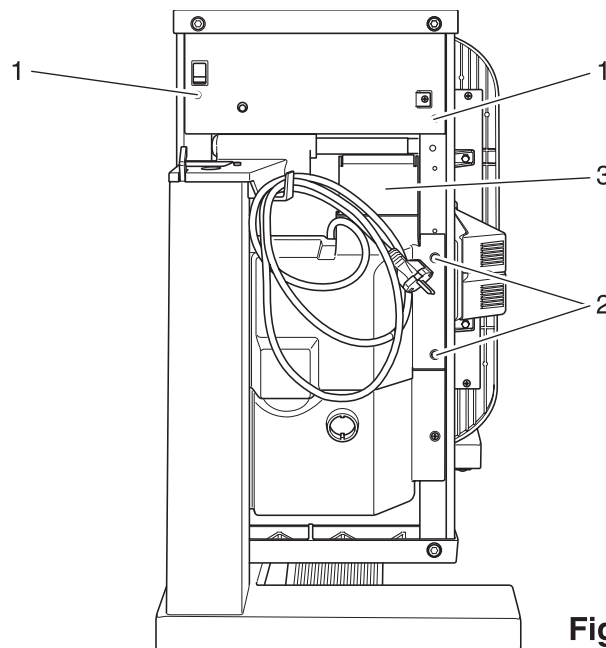

Fig. 15
- Fit cover plate and secure it with screws 1 (fig. 15).